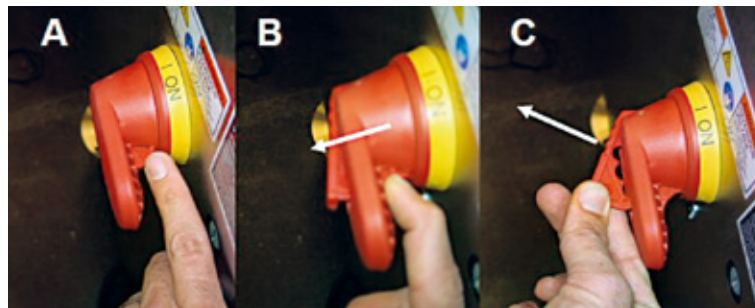

Figure 11-2: FT16 Power Disconnect Switch Locking Mechanism
3. Once in the OFF position, perform the following (see Figure 11-2):